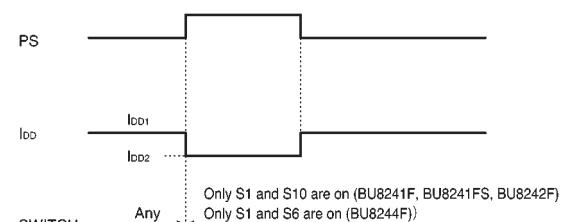

Fig. 3 Power save mode timing waveform
(3) The power save mode is set as long as the PS pin is kept HIGH. (See Table 2 for the power save setting logic.) In the power save mode, the following are fixed : IN1 → OUT1 (S1 = ON) and IN2 → OUT2 (S10 = ON). (The other 62 switches are off.) In addition, the line current is reduced. When the PS pin goes from HIGH to LOW, the IC state switches from the power save mode back to normal operation. At that point, the state of the switch remains in the power save mode (only S1 and S10 are on). (See Figure 3 for the timing waveform in the power save mode.)
(4) With the BU8242F, of the 64 data bits, the following should be input at LOW level : D3, D4, D11, D12, D17 to D32, D35, D36, D43, D44, D51, D52, D59, and D60.
(5) With the BU8244F, DIN is 16 bits.